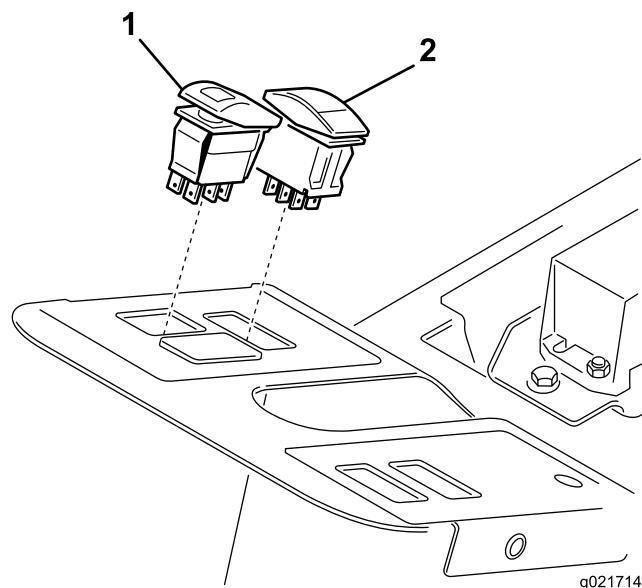

Figure 4
2. Install the turn signal switch into the lower hole in of the steering tower dash panel (Figure 4). The turn signal switch is a On-Off-On switch.
3. Install the hazard switch into the upper right hole in the steering tower dash panel (Figure 4). The hazard switch is a On-None-On switch and has a hazard symbol on it.